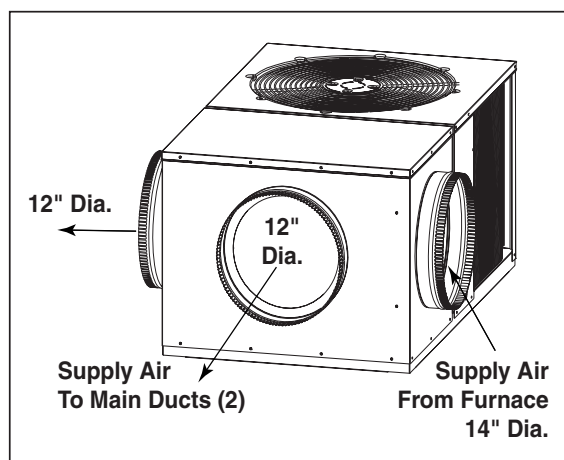

Figure 2. Supply Air Fittings
- a. Use 12" duct to connect unit to the home duct system. (See Fig. 2 and 3)
- b. Use 14" duct to connect unit to furnace. (See Fig. 2 and 3)